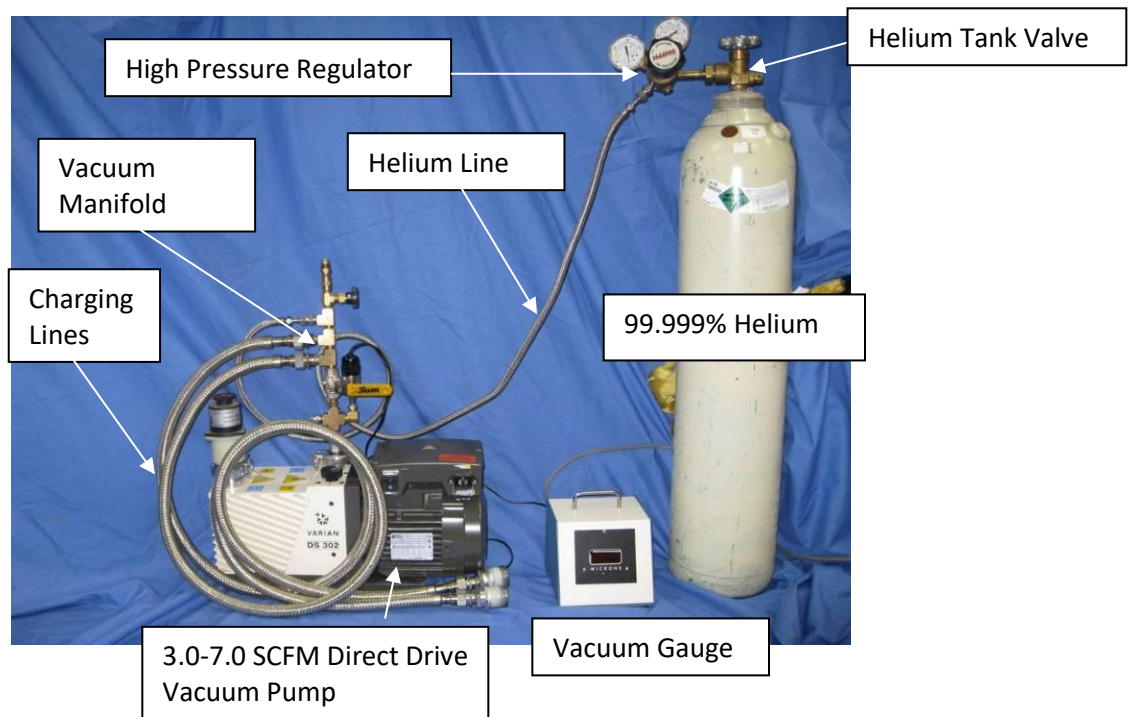
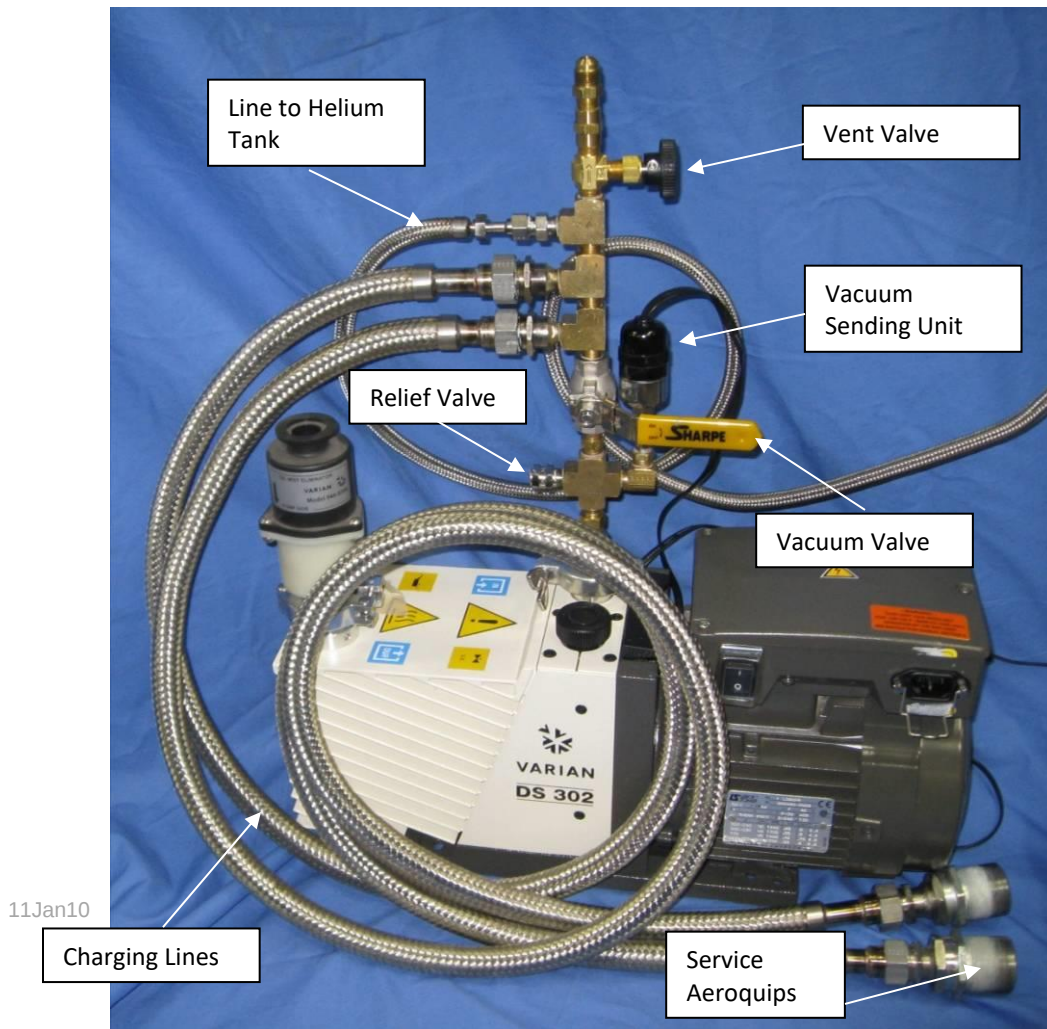

Figure 8-3: Vacuum/charging system
Figure 8-4: Close-up of vacuum/charging manifold and pump
- 7) Attach a charging line from the service Aeroquip to a typical vacuum/charging system as shown in Figure 8-3 and Figure 8-4 below.